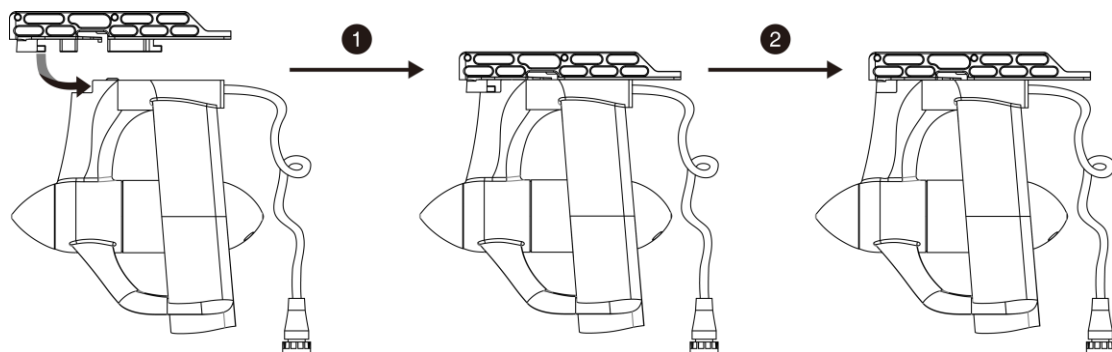

Figure 3-1
- 1) Attach a US fin box adapter onto the motor module base as shown in Figure 3-1. First align the adapter with the motor base; then insert the adapter into the motor base until it is well attached.